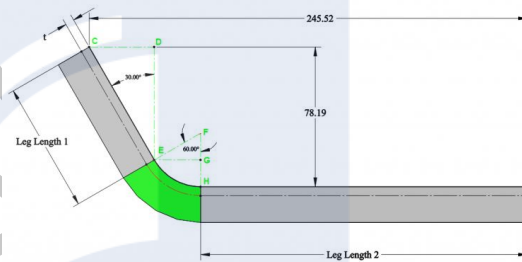

Figure 15
8. The radius R of the bend in Figure 15 is 10mm, the angle of bend is 60° , the thickness of the material is 8mm. The developed length will be